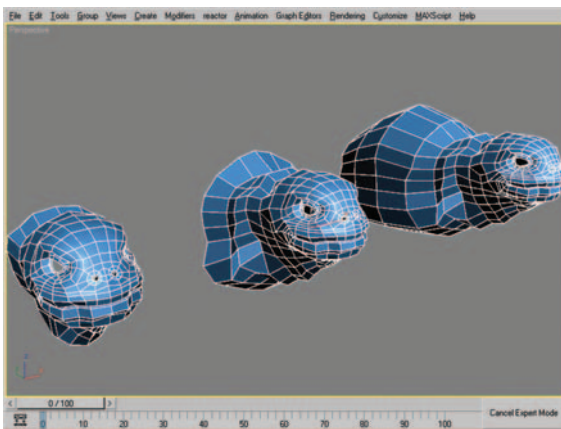

Figure 9.40 Base mesh (left), after shift-dragging/moving edge selection (center), and with additional shift-drags performed (right).
1. Shift-drag the edges at the back of the neck three times to create the mass of the iguana's body. Adjust the scale and placement of the edges as you clone to create a natural form. Figure 9.40 shows the mesh in several stages.